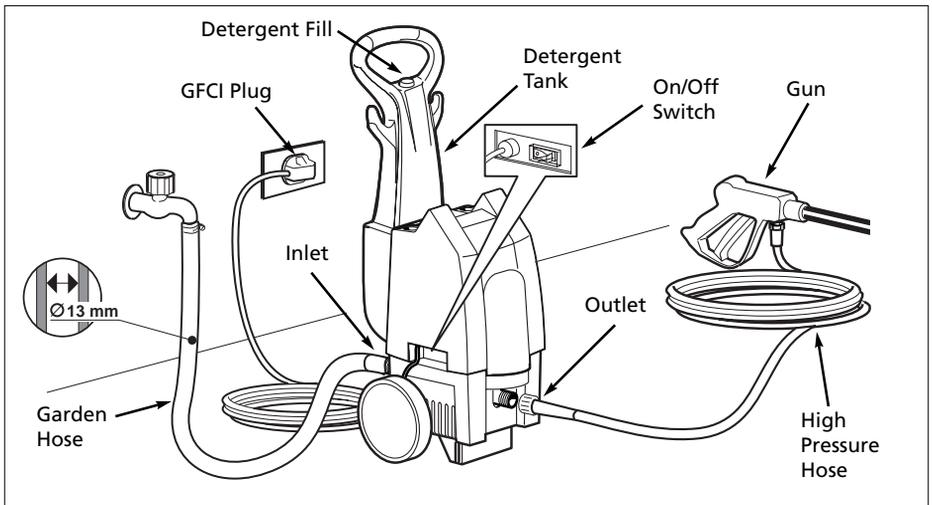

**Figure 7 - Gun/Lance Connection**
1. Insert lance into the gun and turn clockwise to positive stop as shown in Figure 7.